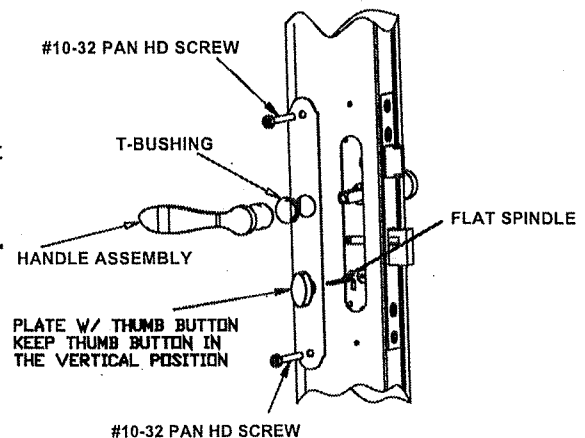

FIGURE 5
D. Insert flat spindle into rectangular slot on latch assembly. Align thumb turn button in vertical position on the inside trim plate. See Fig. 5.
F. Align trim plates and install the (2) 10-32 pan head screws through the top and bottom holes on the inside trim plate. **CAUTION: DO NOT OVERTIGHTEN AS WALLS MAY BEND.** Hold the handles tightly together and tighten set screw on inside handle with hex wrench.